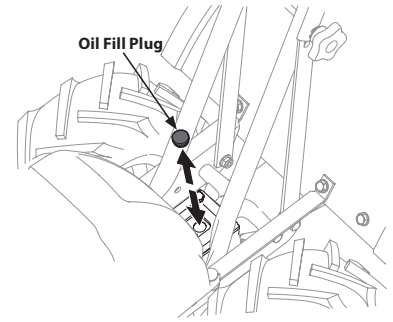

Figure 20
3. Clean the area around the oil fill plug. See Figure 20.
4. Remove the oil fill plug from the transmission housing and look inside the oil fill hole to locate the main drive shaft situated below the hole. See Figure 20.